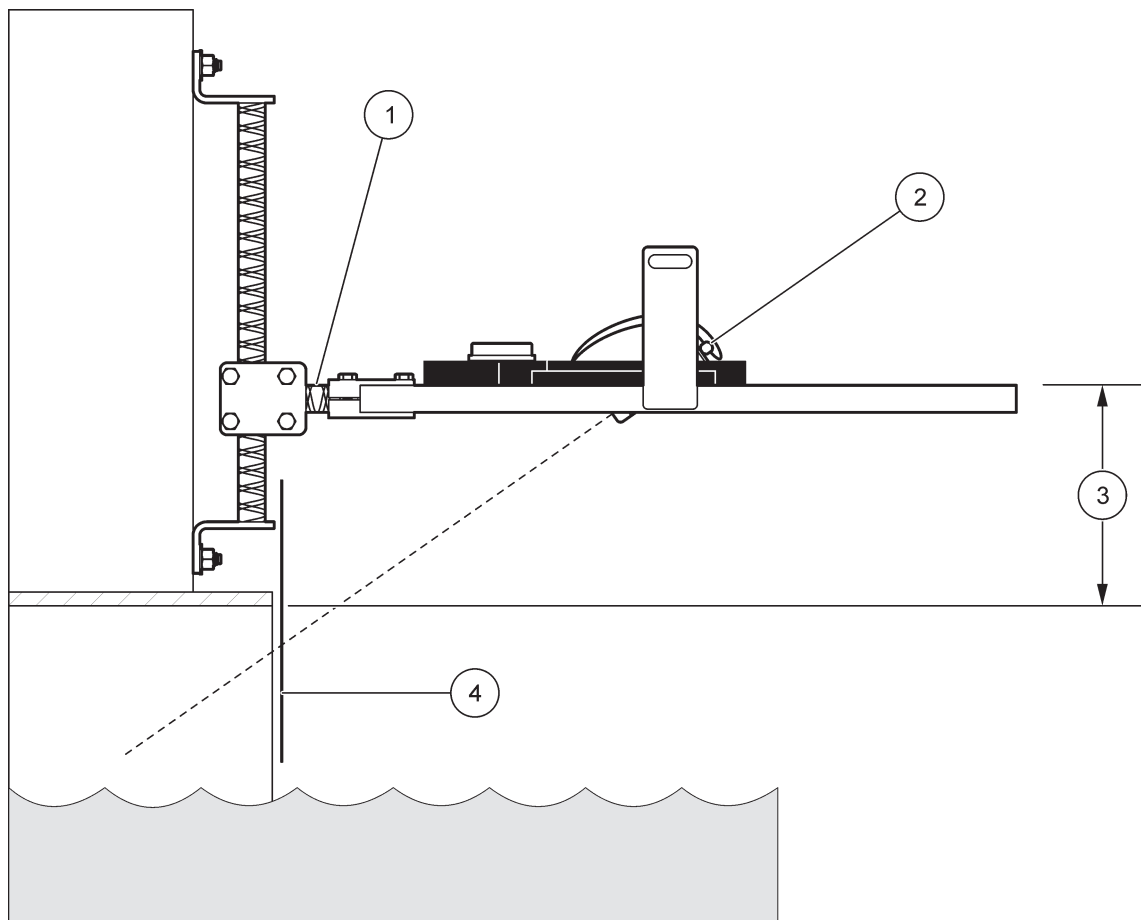

Figure 3 Velocity sensor adjustments
4. Turn the laser pointer on. Adjust the frame so that the laser beam just passes below the crown of the pipe as shown in Figure 3.